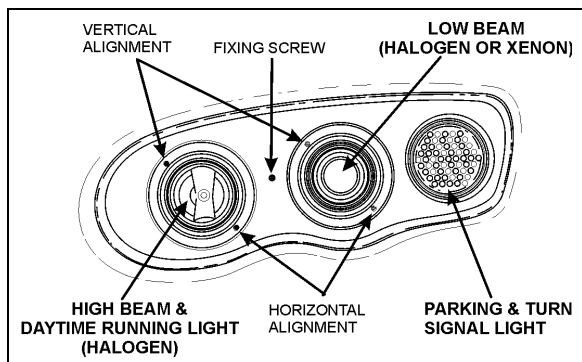

FIGURE 37: HEADLIGHT ASSEMBLY
Headlight aim should be checked after installing a new bulb. Aiming can be performed without opening headlight assembly. Horizontal and vertical aiming of each module is provided by two adjusting screws that pivot the module in the housing for proper alignment (Figure 37). There is no adjustment for focus since the module is set for proper focus during manufacturing assembly.
2. Make sure that headlight assembly fixing screw is properly fastened (Figure 37).
Note: If beam is offset, a LOW CANDLES message will appear. Using vertical and horizontal alignment screws, adjust beam as needed (Figure 37).